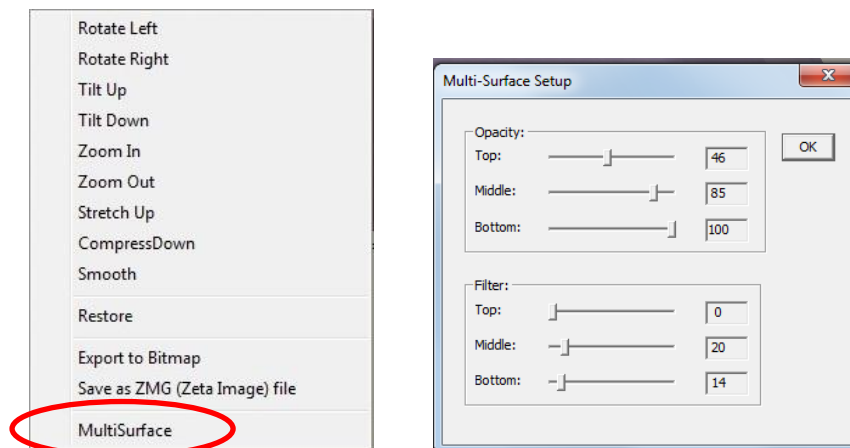

Fig. 94. Multi-Surface Setup control
3. Right click within the 3D image pane to bring up a menu, and select *MultiSurface*. A new control window appears, as shown in Fig. 94.